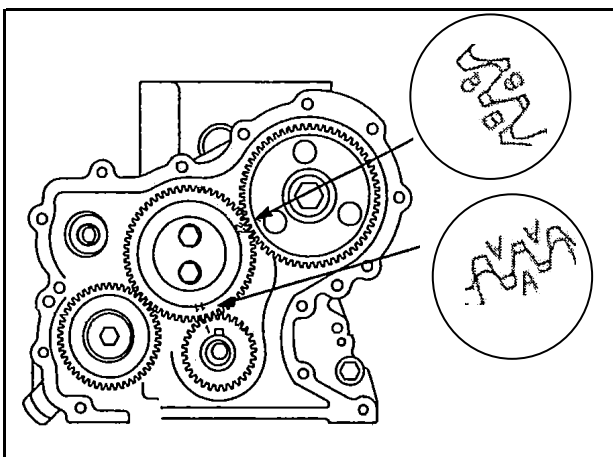

Fig. 13 - Aligning Timing Marks
6. With crankshaft key at 12 o'clock position, assemble idler gear so that timing mark AA is aligned with timing mark A on crankshaft gear, timing mark BB is aligned with timing mark B on camshaft gear, as shown in Fig. 13.